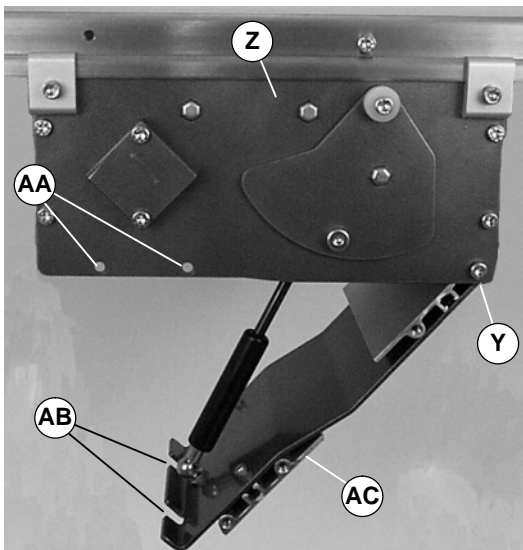

Figure 18
5. Using finger grip holes (AB of Figure 18), open tension door (AC) to release conveyor belt tension.
9. Using finger grip holes (AB of Figure 18), open tension door (AC) to release conveyor belt tension.